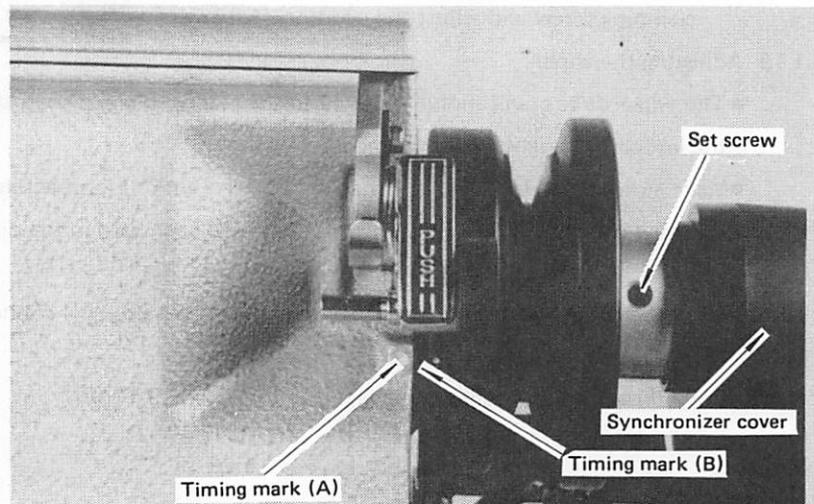

Fig. 10.21
10.1.14 Adjusting the needle bar stop (UP) position (Fig. 10.21)
- (1) Draw out the synchronizer cover toward the cable (see Fig. 10.21).
- (2) There are three position detecting discs in the synchronizer: the first one (red) is for detection of needle DOWN position, the second one (black) is for detection of UP position, and the third one (blue) is not in use.
- (3) Turn the first disc (red) to align the matching holes. (hold the circumference of the first disc to rotate).